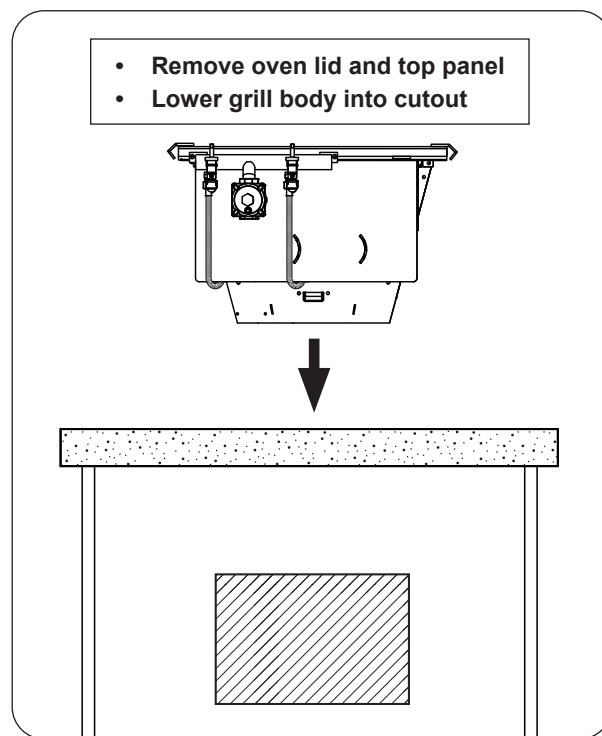

Fig. 25-2 Lower grill body into cutout
2. Carefully place the grill body into the cutout in the enclosure, making sure not to damage any part of the unit (see Fig. 25-2). Slide the unit to the far left of the cutout.